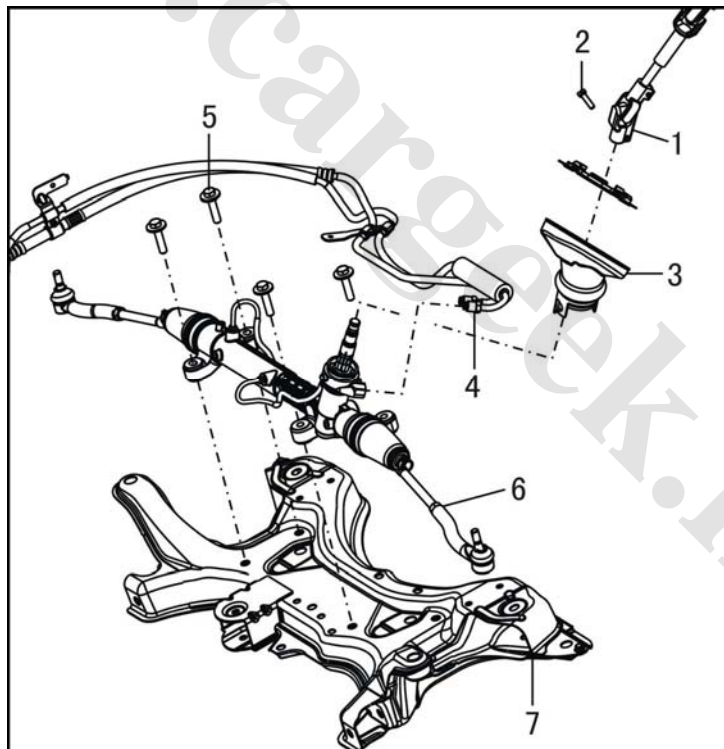

Fig. 2-38
8. Inspection of the power steering gear: see Fig. 2-38.